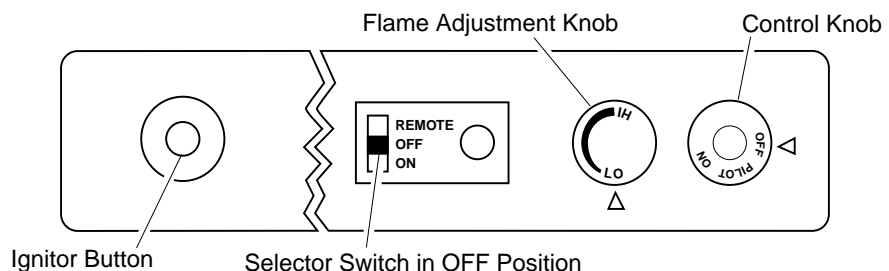

Figure 33 - Control Knob and Ignitor Button Location
- Press in and turn control knob counterclockwise  to the PILOT position. Press in control knob for five (5) seconds (see Figure 33, page 15).